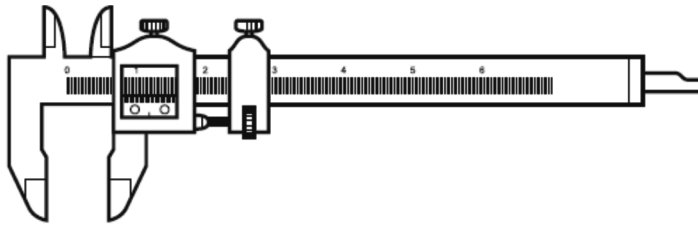

Fig. 1
- 1 **Figure 1** shows a measuring tool.